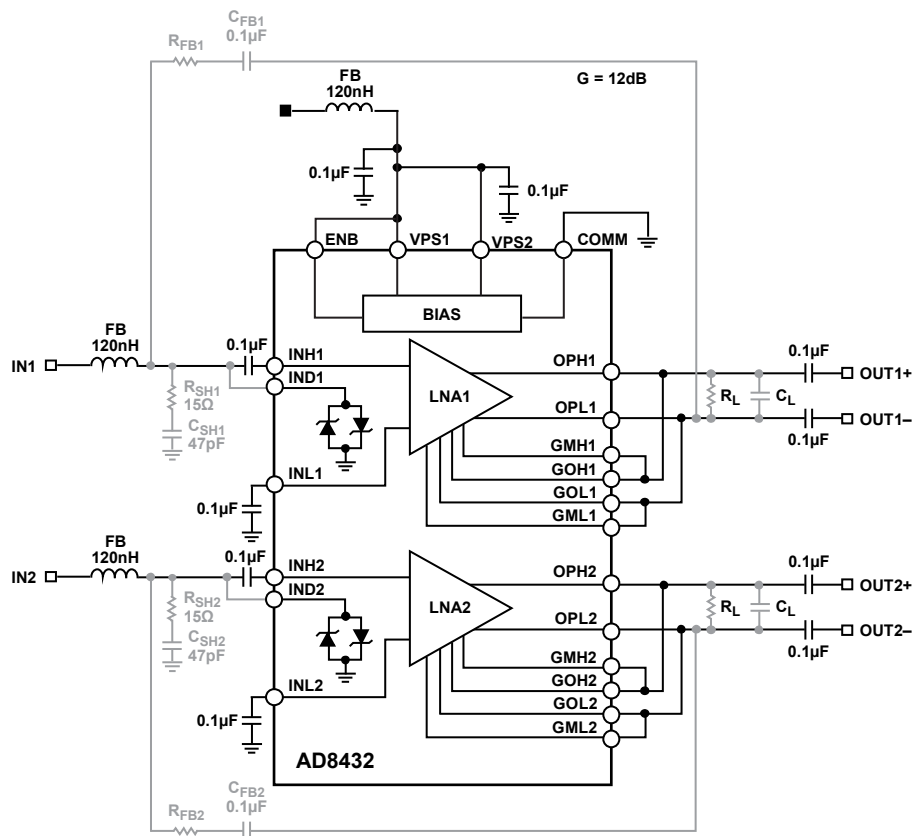

Figure 69. Typical AD8432 Setup,  $G = 12.04\text{ dB}$
At the lowest gain (12.04 dB), the gain response exhibits some peaking at higher frequencies. A resistor-capacitor shunt network (RC) at the input (see  $R_{SHx}$  and  $C_{SHx}$  in Figure 69) is recommended to reduce gain peaking and enhance stability at higher frequencies.